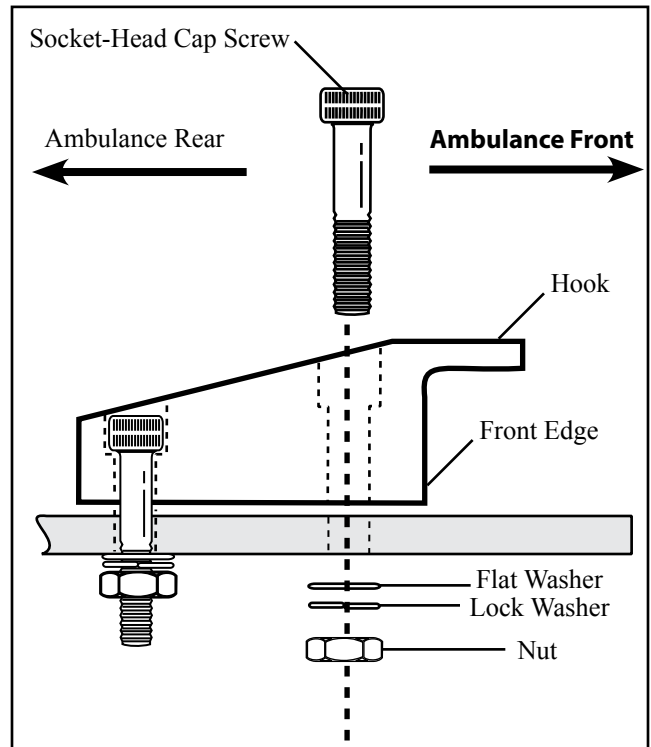

Figure 4 - Installing the Safety Hook
2. Drill holes for the screws and attach the safety hook to the floor (Figure 4).